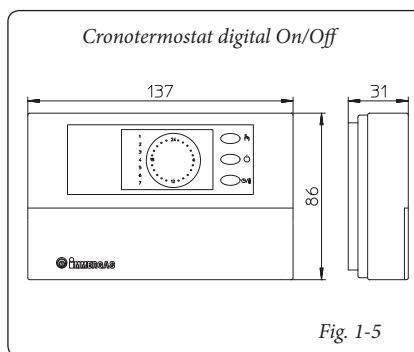

Fig. 1-5
• Cronotermostat digital On/Off (Fig. 1-5). Cronotermostatul permite: